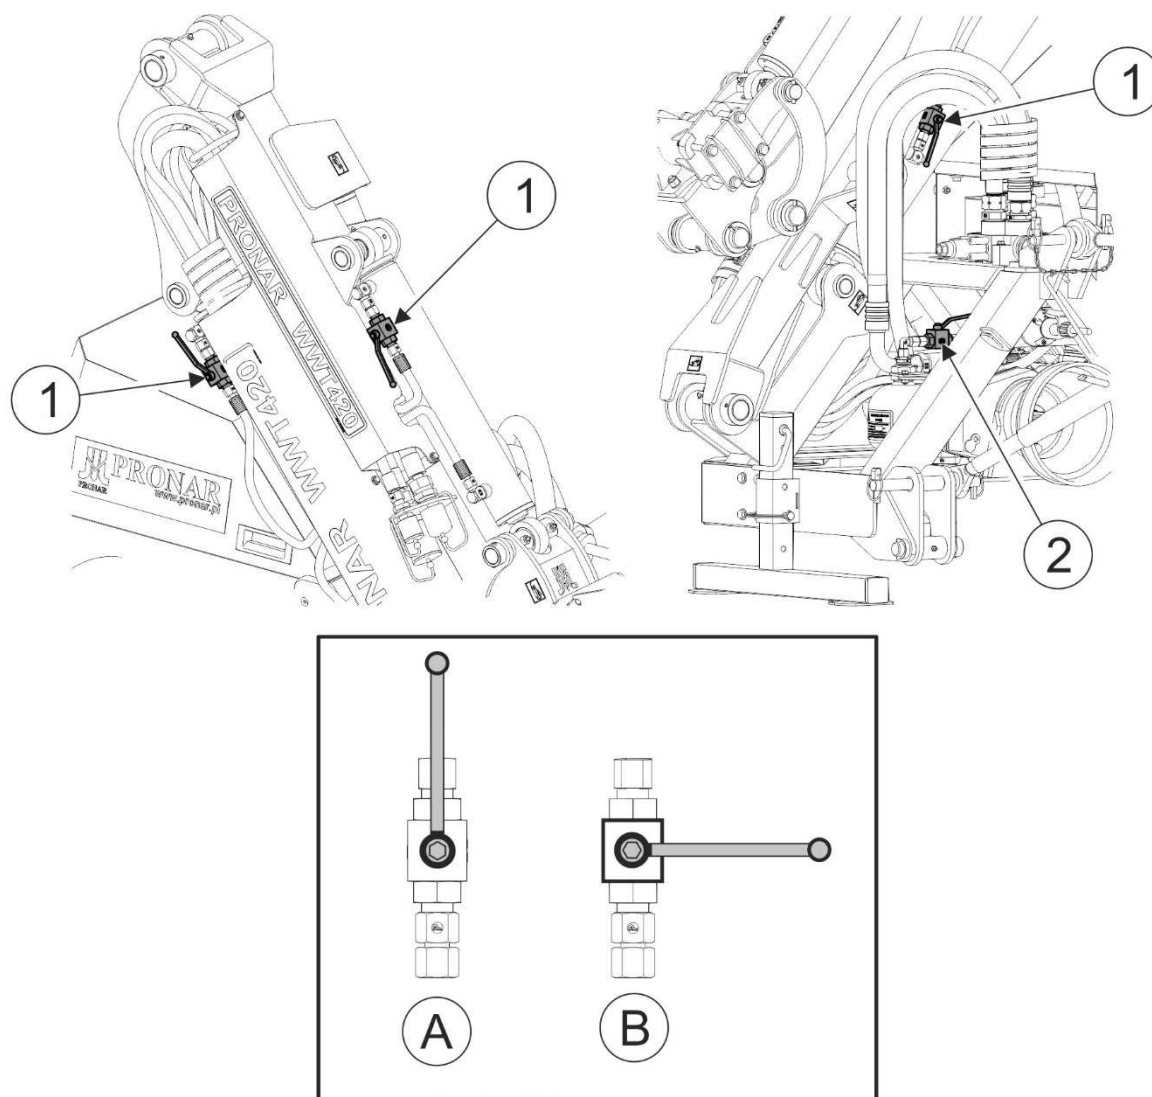

FIGURE 4.7 Ball valves in the transport position
(1)- ball valves of arms' tilting cylinders, (2)- ball valve of the arm's shock-absorption unit (option); (A)- OPEN valve; (B)- CLOSED valve.
When the arms of the multifunction arm are set in the transport position, switch the ball valves which protect the cylinders and the shock-absorption system (option) to the CLOSED position (B) (FIGURE 4.7).
- switch the ball valves (1) of cylinders to the OPEN position (A) (FIGURE 4.7);